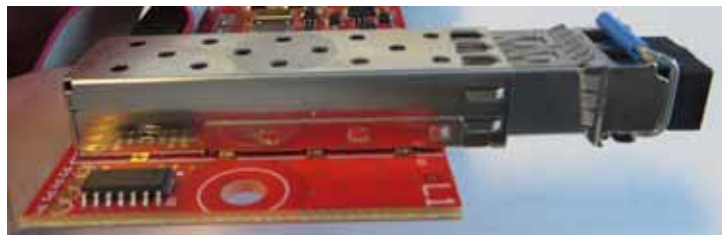

Figure 3 Optical module in FOM-2000-UM
1. Insert the module into one of the metal bays on the FOM-2000-UM. The lever must be closed as shown in Figure 3. The module should slide in easily.